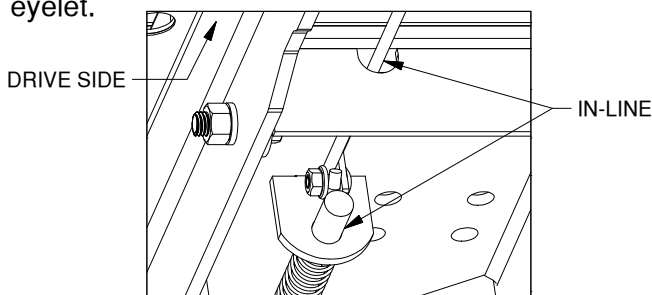

Figure E1: Handle Installation
1. **Insert the handle.** Install the latch pin release handle by inserting it through the slot in the end of the center section on the driver's side of the truck. Align the handle eyelet with the square hole in the latch pin so the handle is in line with the latch as shown in figure E1.